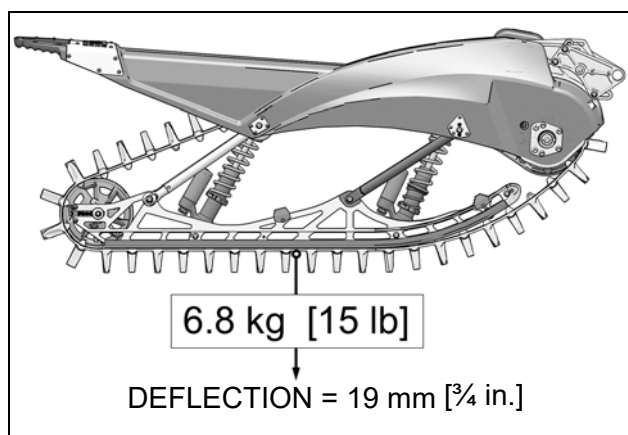

Figure 45
- The table below shows the force applied and the deflection which must/ occur when track tension is correctly set. Refer also to Figure 45.
- Check Track tension at mid-point between the two lower shock absorber mount shafts. Figure 45.